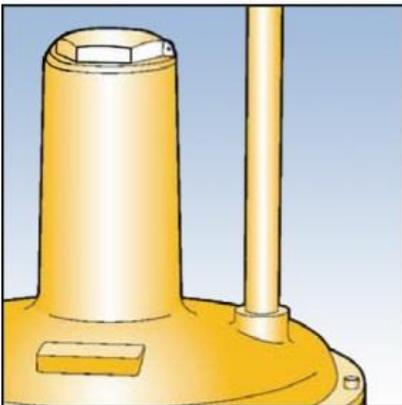

Fig. 3
12. Connect the vent line (½"), using a jointing compound approved to national standards, lead to atmosphere in accordance with national standards. Ensure that no water can penetrate vent pipe. See Fig. 3.